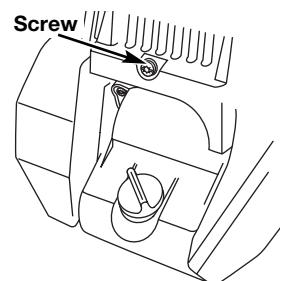

Fig. 32
- Remove the screw behind the engine cover (Fig. 32).